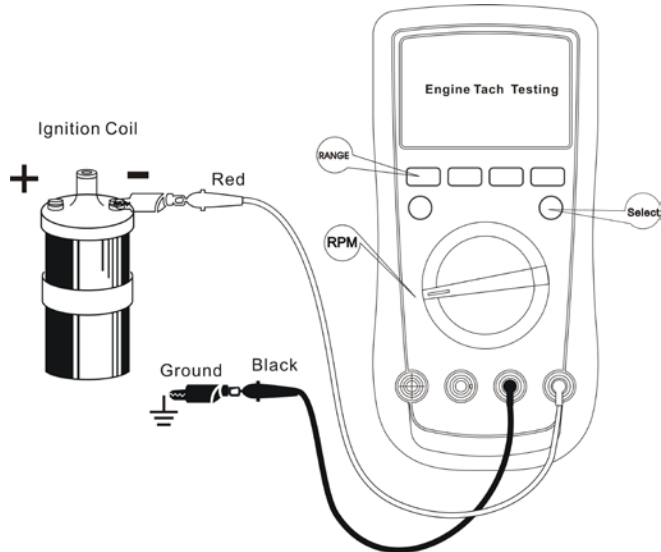

Figure 14
K. Engine Tach (Rotation Speed) Testing “RPMx10” (see figure 14)